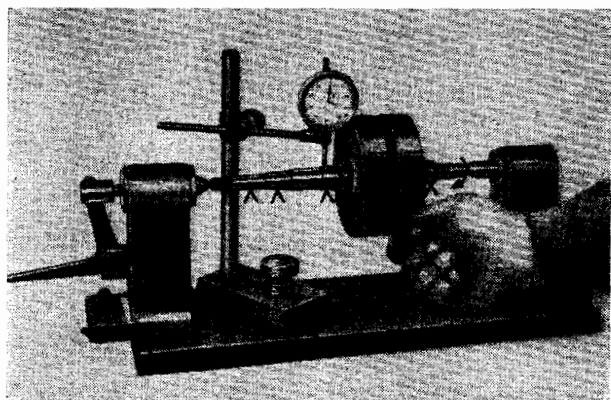

Fig. 40. Measuring the amount the crankshaft is out of true
The driving shaft (A) and the driven shaft (B) must not be out of true more than 0.02 mm. You may measure the amount of eccentricity in the manner indicated in Fig. 40. Please, take care that the centrings of the shafts, are not deformed when driving them out of their place.